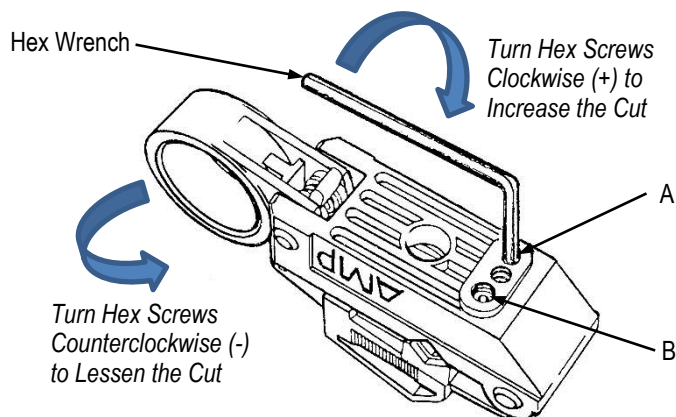
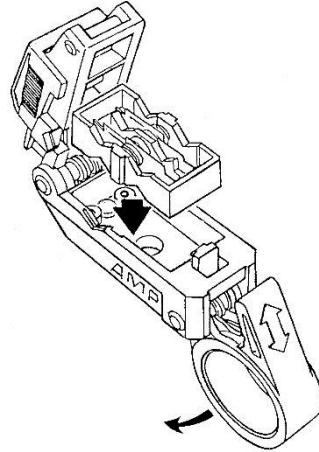

Figure 10
Figure 17
1. Inspect your first strip. Determine how deeply each blade has scored the cable. See Figure 10 for the proper direction you may have to adjust.
2. Adjust blade depth to match your cable by turning hex screws at base of tool (see Figure 10).
2. Push the cassette out of the tool by inserting the wrench, or appropriate object, through hole in the bottom of the tool. See Figure 17. Turn blade adjustment screws counterclockwise until they are fully retracted. See Figure 10.